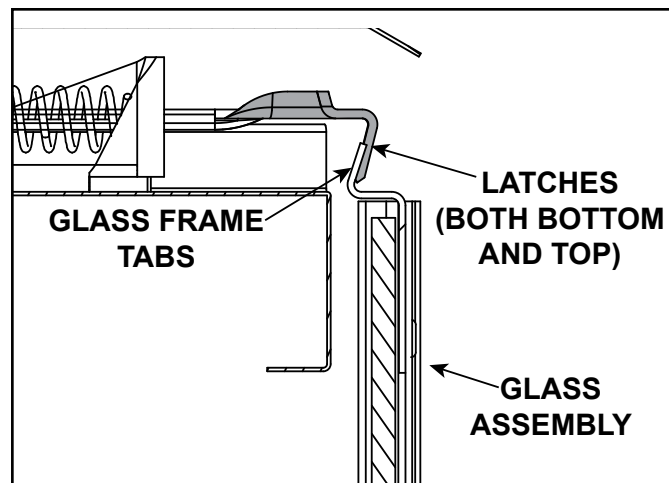

Figure 11.14 Fixed Glass Assembly
- Pull the four glass assembly latches away from the tabs on the glass frame. Remove glass assembly from the appliance. See Figure 11.14.